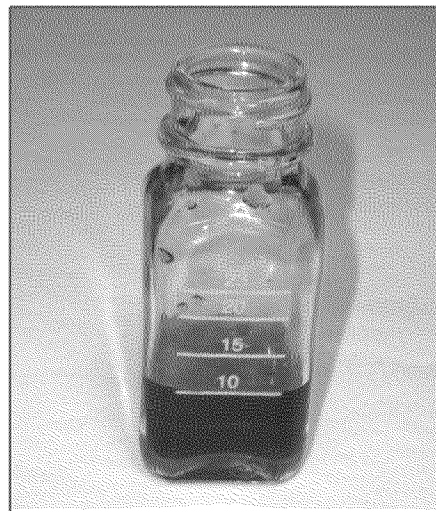

Figure 11. Incomplete Color Change – Additional Sulfuric Acid is Necessary
- (2) IF the solution turns a purplish color as shown in Figure 11, THEN repeat Step j. until the solution has changed completely to a pink/red color OR 20 drops of sulfuric acid have been added.